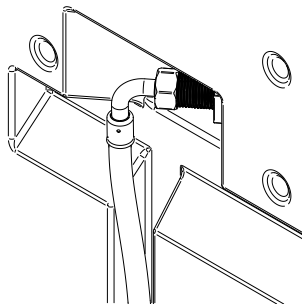

Fig. 6
6.12 **Cold mains feed connection:** The connection to the cold water mains inlet is made using the 15mm compression flexible hose supplied. Ensure the rubber sealing washer supplied with the hose is installed when the hose is fitted. When tightening ensure the fill valve within the tank is not rotated. If the valve is rotated it may not function correctly with the risk of flooding. The hose is made water tight with a sealing washer on assembly, nip tight to 4 to 5 Nm for water tight seal. **(Do not overtighten)**. See Fig. 6.